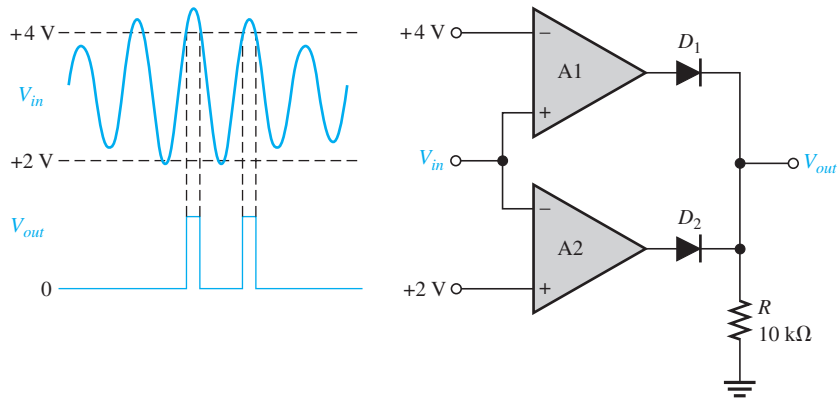

FIGURE 8-57
23. The waveforms shown for the window comparator in Figure 8-57 are measured. Determine if the output waveform is correct and, if not, specify the possible fault(s).